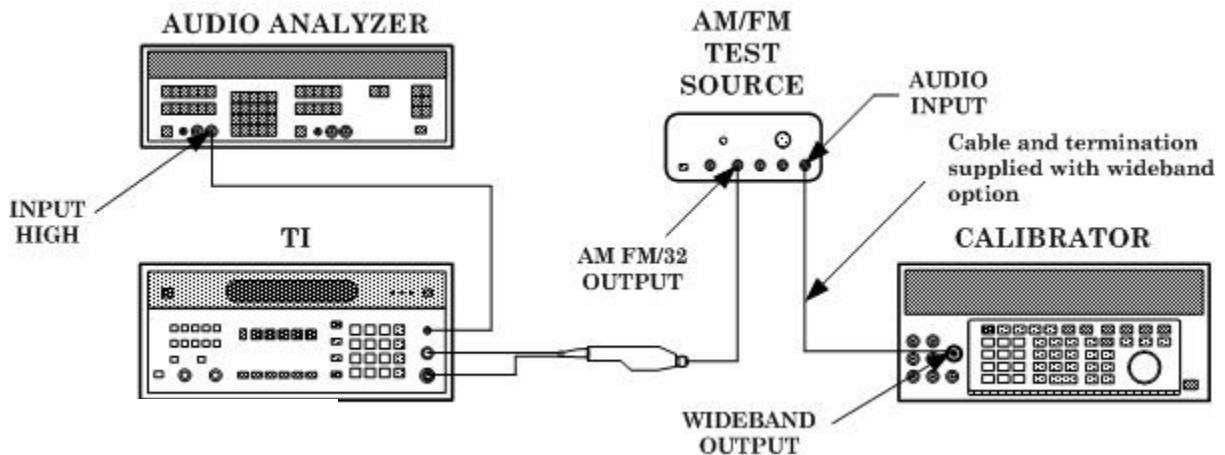

Figure 1. AM distortion.
- (10) Adjust AM/FM test source **CARRIER FREQUENCY TUNE** control for a TI indication of approximately 12.5 MHz.
- (11) Press TI keys as listed in (a) through (f) below:
- (12) If TI indication is not $\leq 0.01\%$, perform **b** below.
- (13) Connect equipment as shown in figure 1.